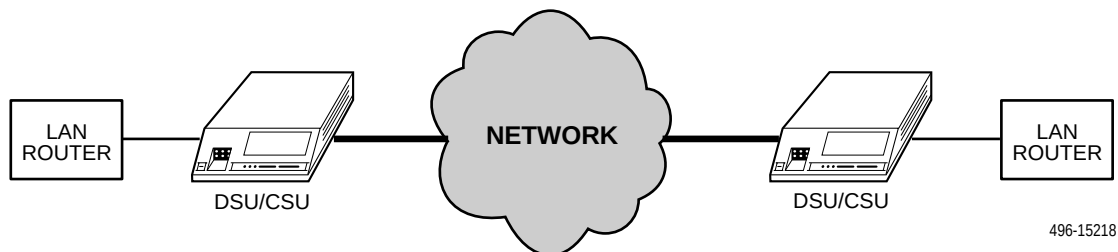

Figure 2-1. Point-to-Point Application Example
- Point-to-Point LAN interconnection (Figure 2-1, Point-to-Point Application Example).